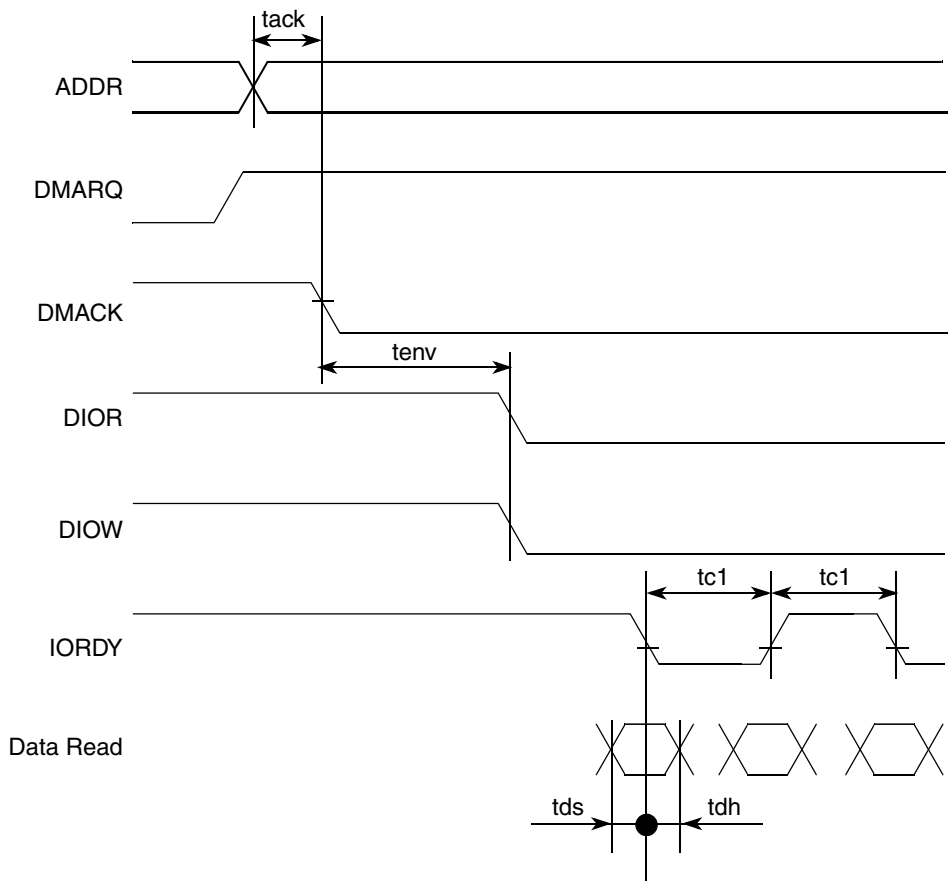

Figure 28. UDMA In Transfer Start Timing Diagram
- Figure 28 gives timing for UDMA in transfer start